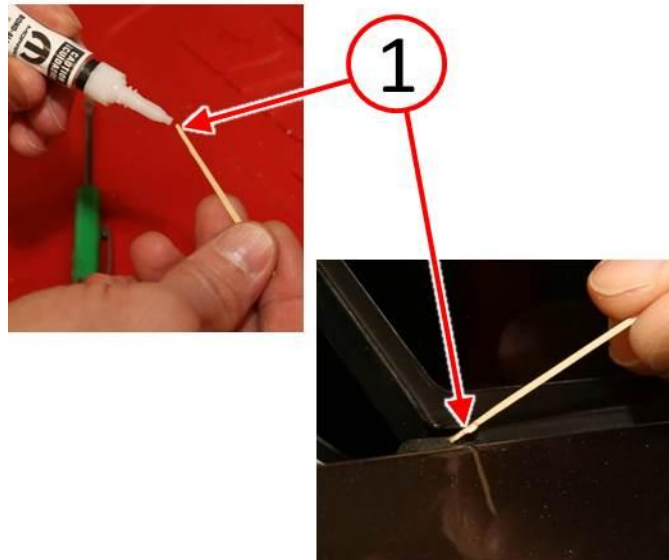

Fig. 7 Transfer Glue To Stuffer
9. Use a toothpick or equivalent to transfer a small amount of bond-all gel glue to the foam stuffer close to the bulb seal end (Fig. 7).